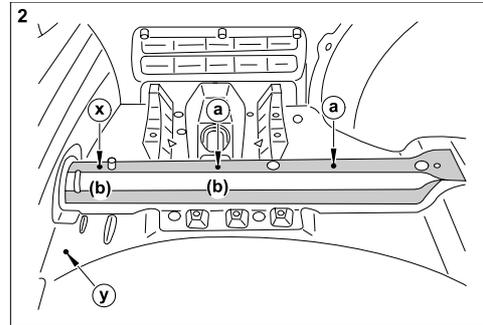

Fig. 2 : Holes in luggage compartment, left
- 5.) Drill a diameter 36 mm \varnothing hole (" y ") at the centre punch mark in the luggage compartment floor between the left frame side member and spare wheel through for the cable leadthrough; see Fig. 2.